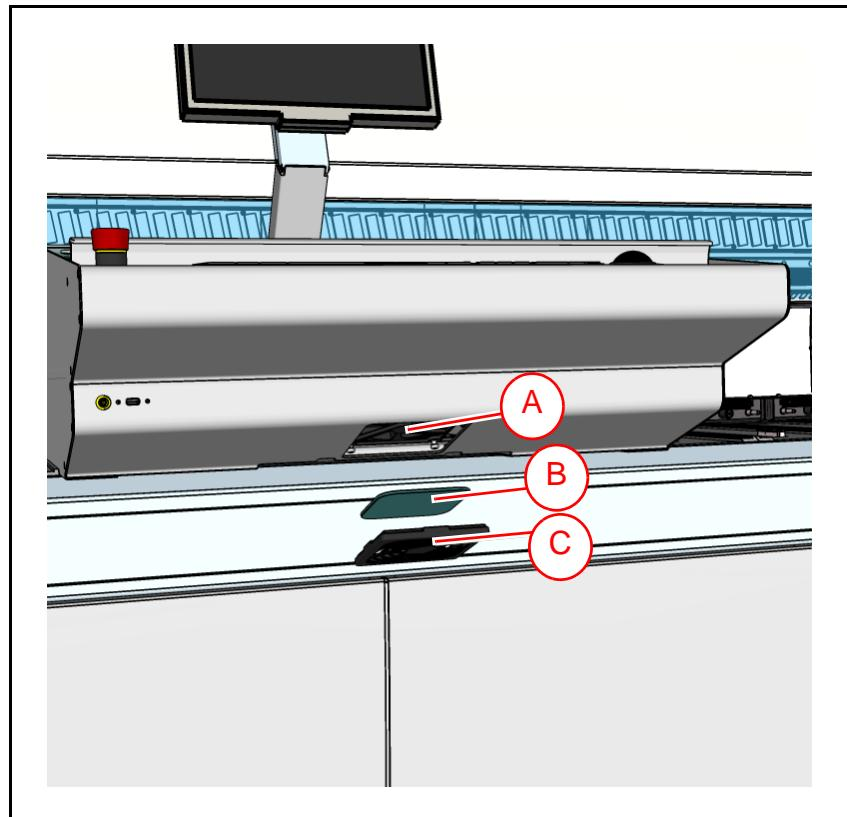

Figure 16-28. Replace filter mat.
2. Carefully remove the plastic cover ('C' in Figure 16-28) from the fan assembly ('A').